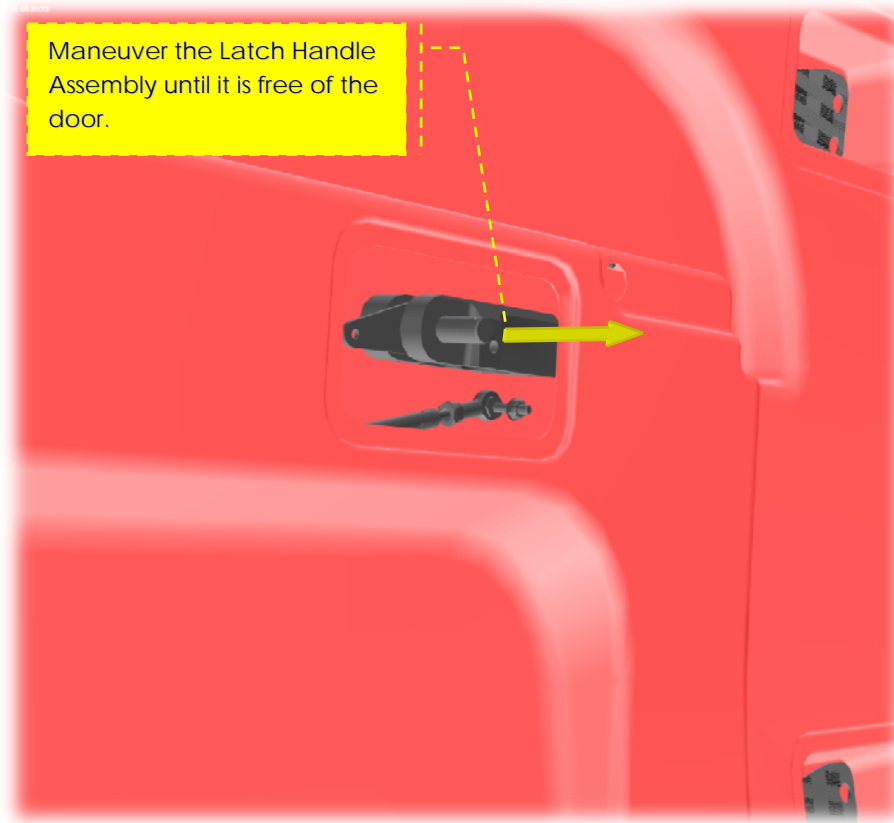

Figure 6 – Extract Assembly from the Door
6. Once the screws are removed the Latch Handle Assembly can be removed. Holding on to the Latch Handle Assembly, maneuver the entire assembly until the shaft is free from the hole. Extract the Latch Handle Assembly through the access panel. *See Figure 6.*